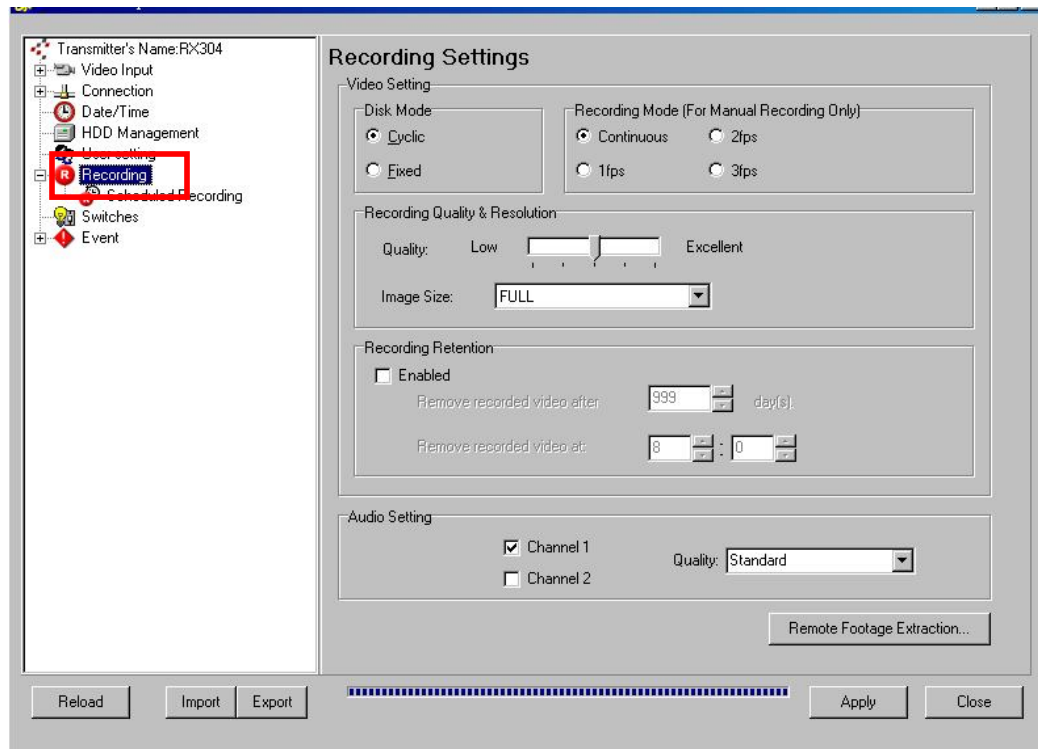

Fig 6.4a
Step 1 : In {Transmitter Setup} panel, click [Recording] as Fig 6.4a.